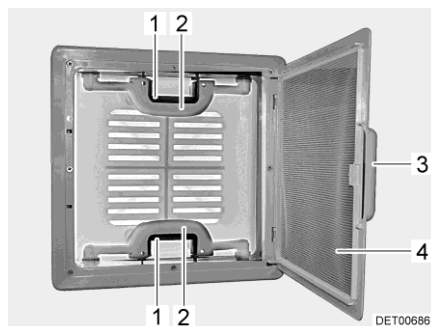

Fig. 21 Skylight with snap latch
- Pull on the handle (Fig. 21,3).
- Fold insect screen (Fig. 21,4) downward.
- Push the snap latch (Fig. 21,1) towards the inside of the skylight. At the same time use the handle (Fig. 21,2) to press the skylight upwards.
- Swing insect screen (Fig. 21,4) upwards until it latches in place.
- Using both handles (Fig. 21,2), pull down the skylight with force until the two snap latches (Fig. 21,1) lock into place.